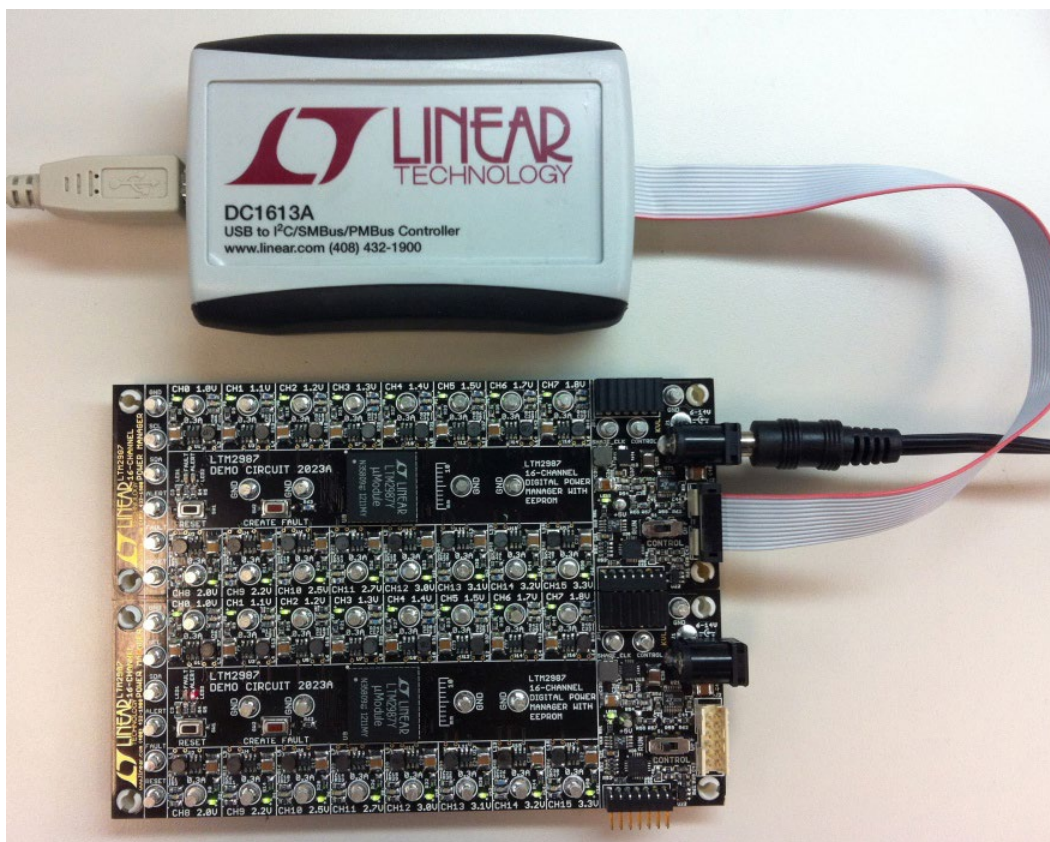

Figure 12. Array of Multiple DC2023A Demo Boards
3. Plug in the +12V V_{IN} power into one of the boards as shown in Figure 12. Only one +12V power source is allowed.